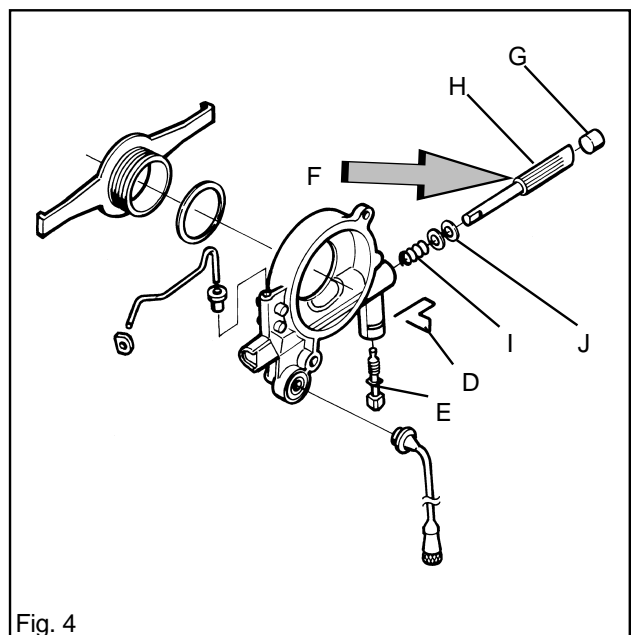

Fig. 4
1. Locate the clutch shoes on the hub and fit the springs with the help of circlip pliers. See fig. 4.
7. Remove the clip (D) and unscrew the adjuster screw (E). See fig 4.
8. Using pliers, press on the plug piston at F so that the cover plug (G) and piston (H) can be removed. See fig 4.
9. Using pliers, remove the spring (I) and the two washers (J). See fig. 4.
2. Locate the spring (I), 2 washers (J) and pump piston (H) in the pump casing. Oil in all components with chain oil. See fig. 4.
3. Using a screwdriver, push in the pump piston and screw home the adjuster screw (E) fully. See fig. 4.
4. Locate the cover plug. (G). See fig. 4.
5. Fit the clip (D). See fig. 4.
In cold start mode (fig. 4), the choke butterfly (D) is completely closed. This increase the vacuum in the carburettor so that fuel is sucked more easily from the diffuser jets (E, F and G). The throttle butterfly (H) is partially open.